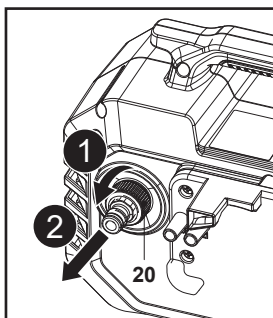

Fig. 15
1. Remove the water inlet adaptor (20) from the water inlet connector (13) (Fig. 15).